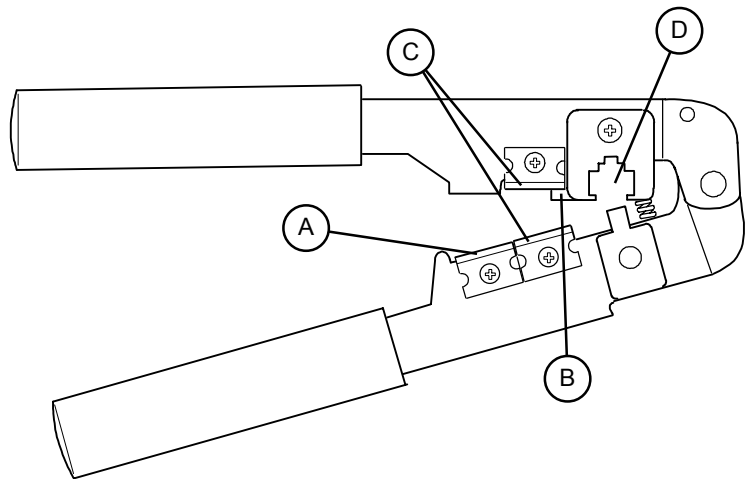

Figure 1: RJ-12 Modular Plug Crimping Tool
1. Using the cutter blade on the crimping tool (labeled “A” in Figure 1), cut the flat CA Cable so the cut is clean and 90 degrees to the sides of the cable.
2. Fully insert one end of the CA Cable between the stripping blades (labeled “C” in Figure 1) until the end of the cable hits the stop (labeled “B” in Figure 1).
6. Push a RJ-12 Modular Plug into the plug holder on the crimping tool (labeled “D” in Figure 1) until the release tab on the plug locks into position.